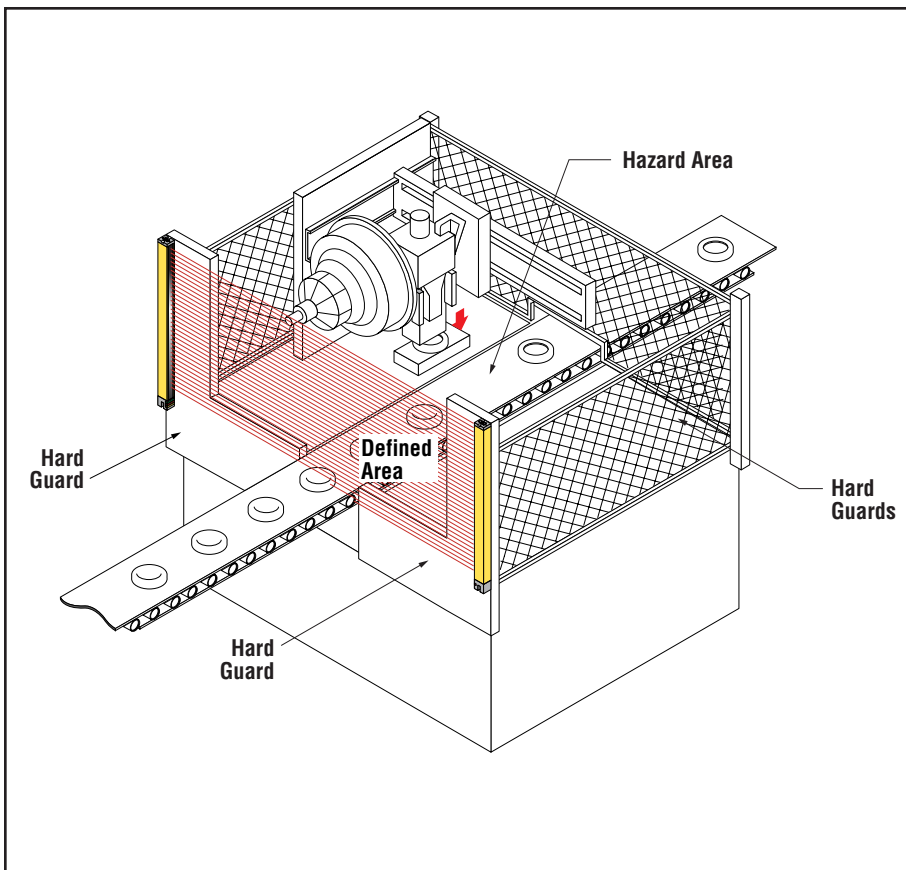

Figure 8. Example of “hard guarding”
ANSI B11.1-1988, 6.3.2 (14) requires that “all areas of entry to the point of operation not protected by the presence-sensing device shall be otherwise safeguarded.” The hazard point must be accessible *only* through the defined area. This means that mechanical barriers (screens, bars, etc.), or supplemental presence sensing devices (*supplemental guarding*) must be installed, wherever needed, to prevent any person from reaching around, under, or over the defined area and into the hazard point, and to prevent any person from standing between the defined area and the hazard point (see OSHA 1910.212). The use of mechanical barriers for this purpose is called “hard guarding” (see the WARNING at right and Figure 8, below).